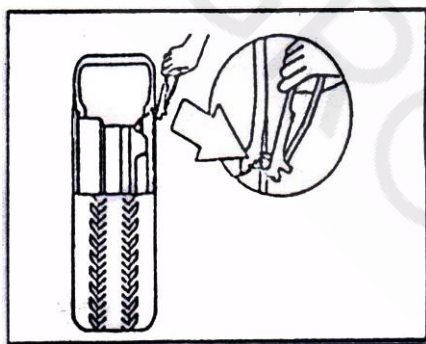

FIG22
- Deflate the air in the tire completely and pull out the core. Use the special tool to detach the weight on the rim. (FIG22)